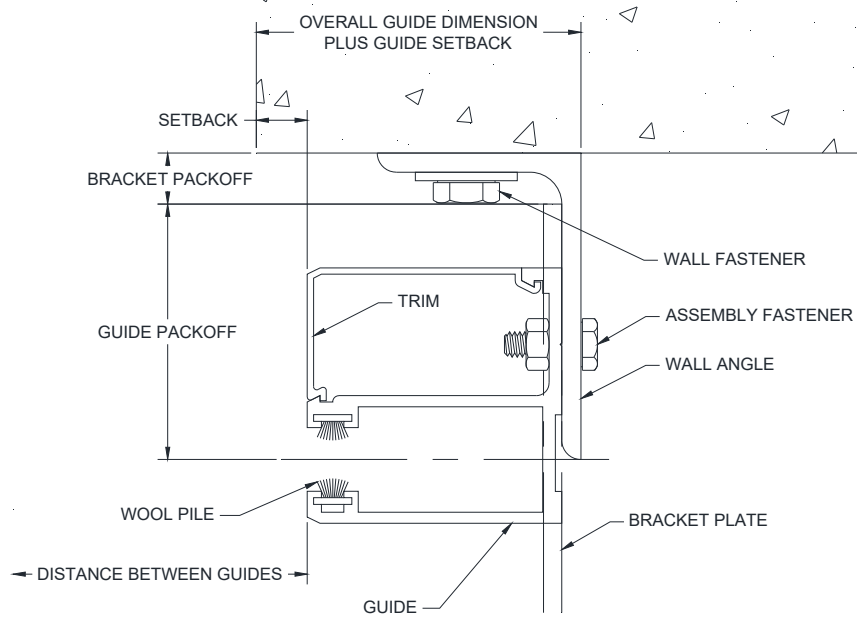

Figure 5.1 - Face of Wall "E" Guide
Face of Wall Units Mounting to Existing Wall Construction (Figures 5.1 - 5.2):
2. Measure the distance from the opening/jamb to the heel of the wall angle (on “E” guides) or the toe of the wall angle (on “Z” guides). This distance is referred to as the “*Overall Guide Dimension plus Guide Setback*”; see **Figures 5.1** and **5.2**. See the job construction drawings for the guide setback and overall guide dimensions.